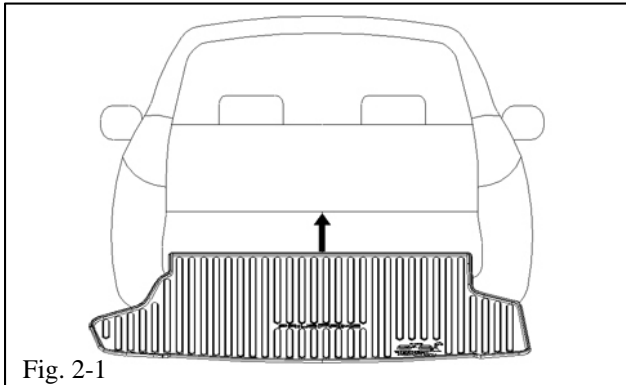

Fig. 2-1
- (a) Place the Cargo Tray in the cargo area with the logo towards the rear of the vehicle and facing up (Fig. 2-1).